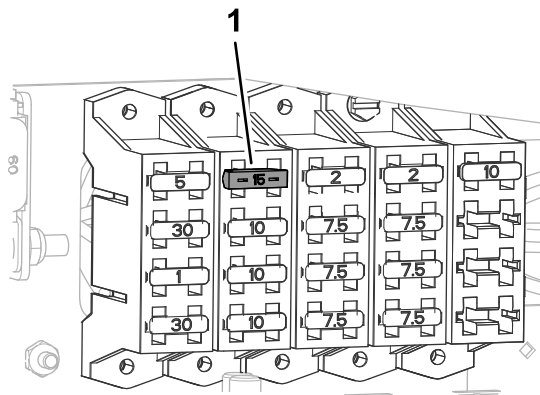

Figure 54
2. Replace the open (blown) fuse for the road light circuit at fuse-block slot at column B in row 1 (Figure 54).